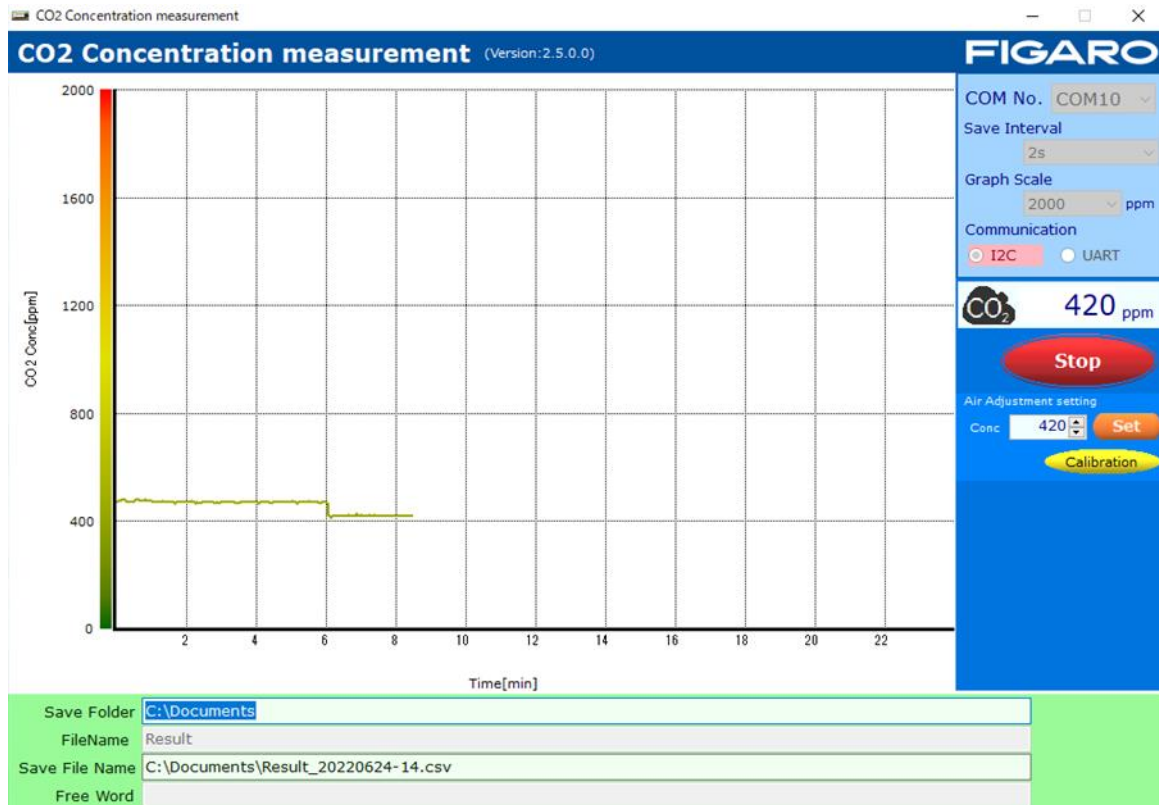

Figure 12 - Display example during Air Adjustment
Figure 12 shows example display concentrations when Air Adjustment is performed assuming that CO2 concentration in ambient air is 420ppm.
- (1) Change the Air Adjustment setting value to assumed CO2 concentration in ambient air (420ppm in the example shown in Figure 12) on the PC display. Then click [Set] button.
- (2) Confirm that the CDM7162 CO2 sensor output has been sufficiently stable under this ambient conditions, and click [Calibration] button. And the concentration display will show the same concentration as the Air Adjustment setting value.
(Figure 12 shows an example of CO2 measurements when clicking [Calibration] button after 6 minutes in ambient air for confirming stable sensor output.)